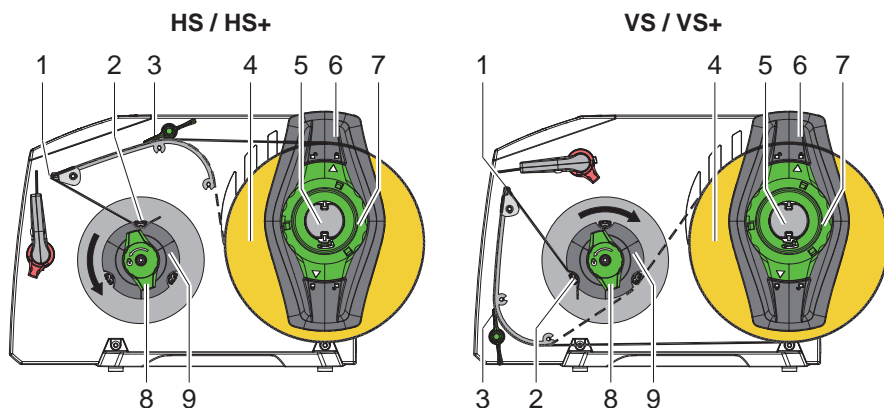

Fig. 6 Loading labels
1. Turn ring (7) counterclockwise, so that the arrows points to the symbol , and thus release the margin stop (6) from the roll retainer (5).
2. Load label roll (4) on the roll retainer (5) in such a way that the labels are visible from above at HS 120 / from below at VS 120.
3. Re-mount the margin stop (6) and push against the label roll as far as possible.
4. Turn ring (7) clockwise, so that the arrow points to the symbol , and thus fix the margin stop (6) on the roll retainer (5).
5. Swing away the brake (3).
7. Guide label strip over the dispense plate (1) to the rewinder (9) as shown in figure 6. The broken line shows the path for inside wound labels.
8. Hold rewinder (9) firmly and turn knob (8) clockwise until it stops.
9. Push liner under a bracket (2) of the rewinder (9) and turn knob (8) counterclockwise until it stops.